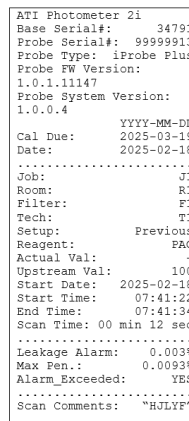

Figure 32. Output from thermal printer
**Step 3.** The output from the thermal printer is the same as the saved summary data of the save leak scan (Figure 32)